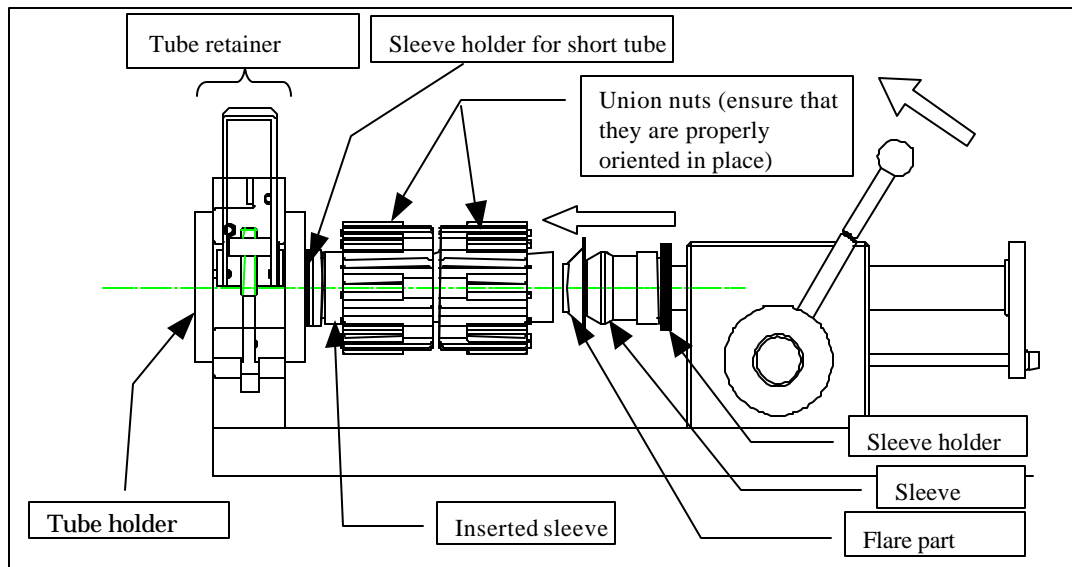

Fig. 20 Parts arrangement
- Loosen the lock bolt at the bottom of the insertion unit, and lock the insertion unit so that the piping is formed as illustrated in Fig. 20.